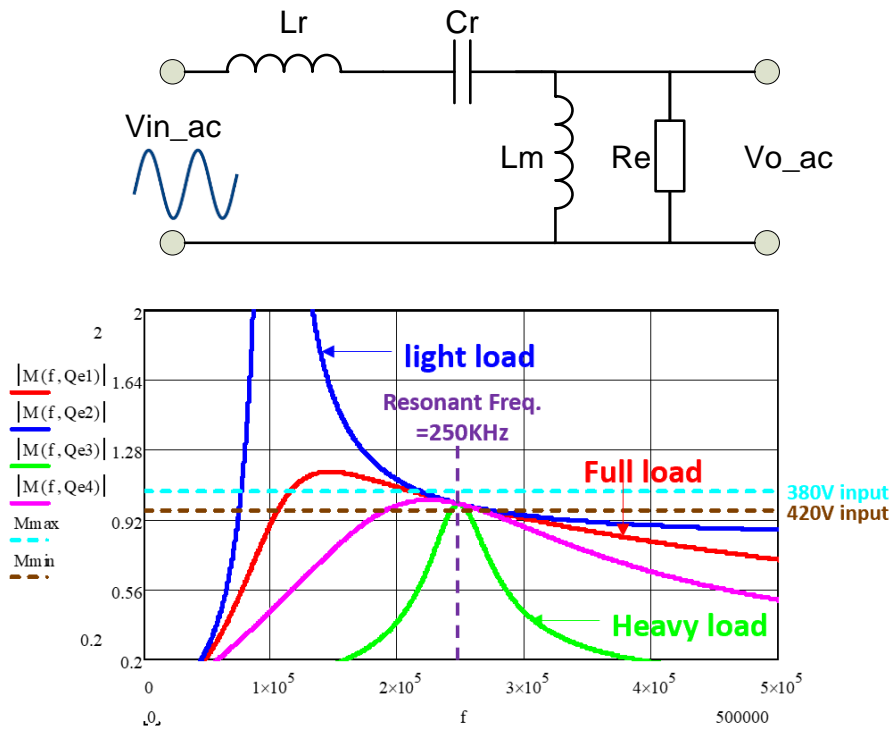

Figure 6. FHA equivalent resonant circuit and the DC gain M curve with frequency
Using the FHA (First Harmonic Approximation) method, the voltage DC gain can be theoretically calculated with reference to the equivalent resonant circuit, shown in Figure 6. This equivalent circuit represents a transformation of the circuit, in which the output transformer and rectifier + filter are reflected by an equivalent load  $R_e$ , which is the output loading  $R_o$  of the converter transformed back through the converter transformer and can be expressed in equation (2).
The  $f_r$  is resonant frequency and  $Q_e$  is quality factor. Here, the  $Q_{e1}$ ,  $Q_{e2}$ ,  $Q_{e3}$ , and  $Q_{e4}$  in Figure 6 represent the quality factors at 100% full load, 10% load, 10x load, and 2x load respectively. The LLC converter with wide load range is regulated to 54V with an input voltage range from 380V to 420V. The resonant frequency is set at 250KHz. At 100% full load, the switching frequency operates from 220KHz to 280KHz. At light load or soft start-up conditions, the max frequency is up to 450KHz.